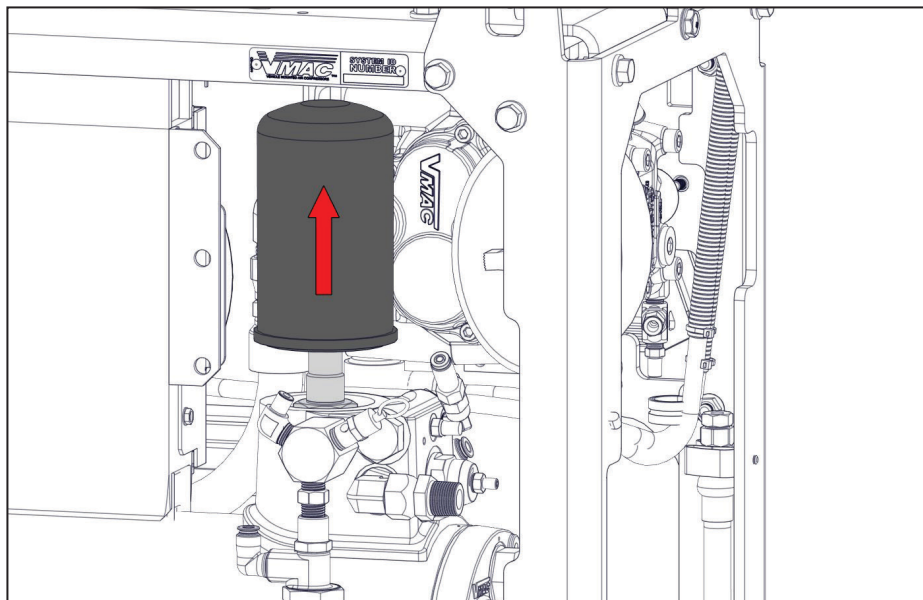

Figure 37 — Coalescing filter
- ☐ Remove the spin on coalescing filter by turning it counterclockwise (Figure 37).
- ☐ Clean the gasket sealing surface and inspect it for damage. The surface must be free of old gasket material and smooth to ensure a good seal (Figure 37).